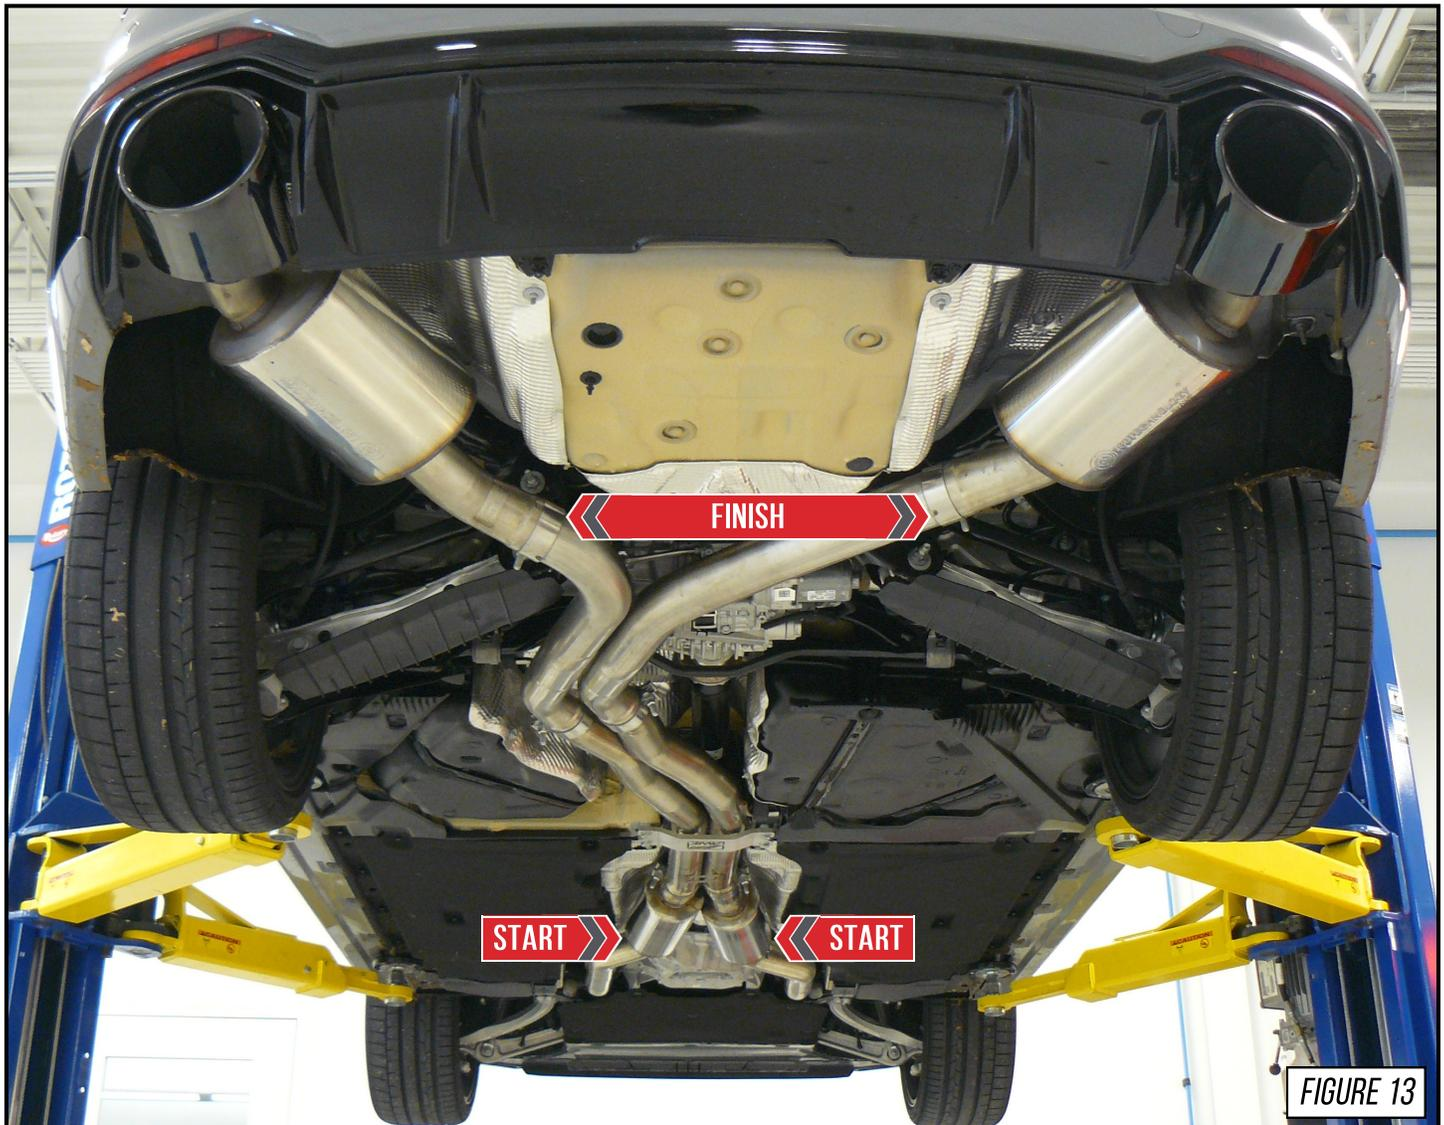

FIGURE 13
**Arrow A** in **Figure 13** shows the expanded pipe and the preinstalled Accu-Seal clamp being brought up to the corresponding pipe.
**Arrow B** in **Figure 13** shows the overlapping pipe installed correctly over the corresponding pipe.
**Arrow C** in **Figure 13** shows the Accu-Seal clamp being brought to the edge of the expanded pipe.